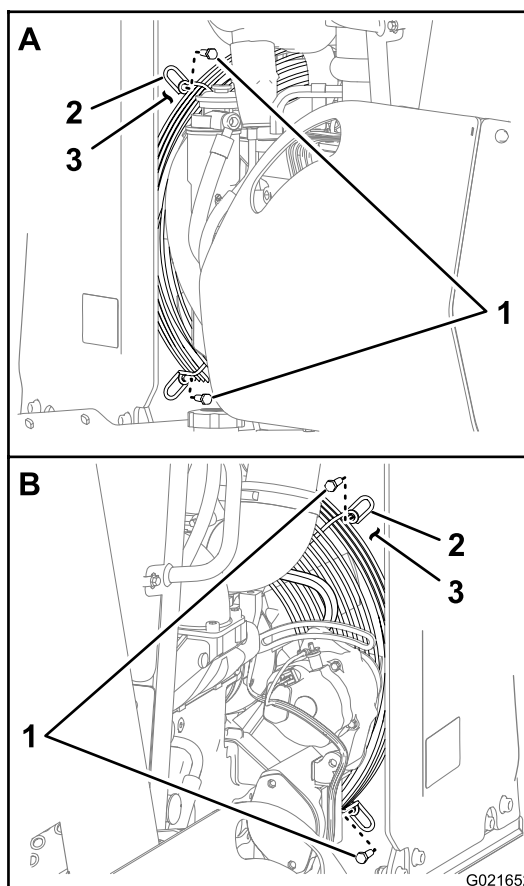

Figure 87
- Remove the 4 bolts that secure the fan guard to the fan shroud (Figure 87).
7. Rotate the fan guard clockwise around the drive shaft of the fan until the opening in the guard is at the 6 o'clock position (Figure 87).
8. Secure the fan guard to the fan shroud (Figure 87).